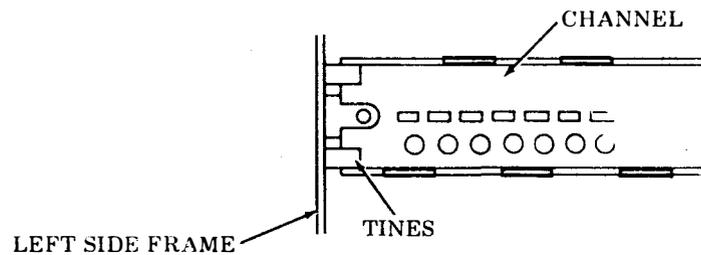

Fig. 34—Channel Engagement
- (a) Slide channel to the left and engage tines on left side frame (Fig. 34).